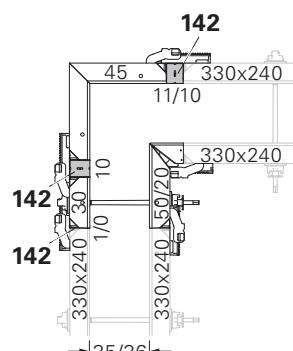

Fig. C1.06
- Fig. C1.06 + C1.05a + C1.05b